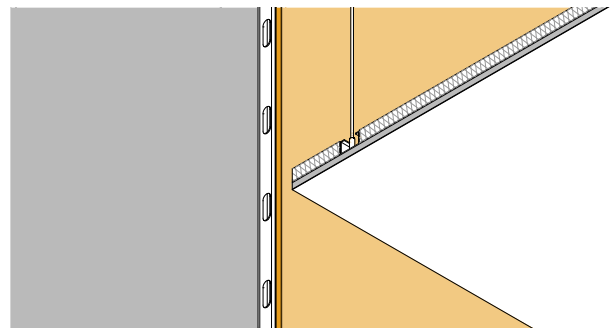

FIGURE 28: Detail of suspended ceiling installed later
10. The wall finish should be carried out in such a way as to cover it all, from floor to ceiling and, if the project includes suspended ceilings, these will be installed later. (fig. 28)